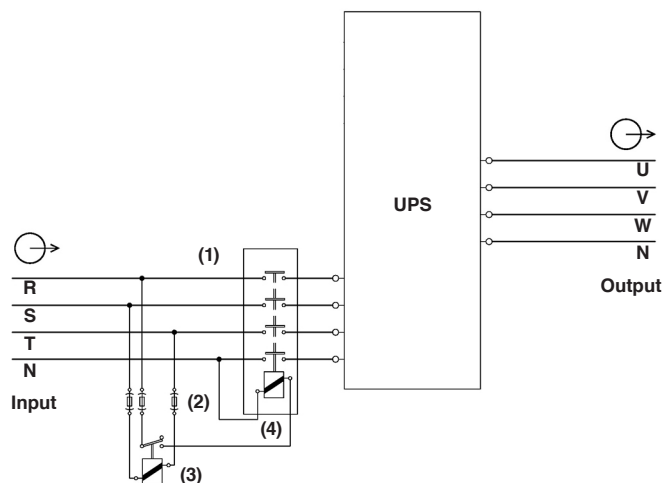

Fig. 15. Backfeed protection connection in installations with common bypass line (X-TRA-CB) and power ≤ 300 kVA.
- X-TRA-CB** equipments (common bypass line) and power ≤ 300 kVA, in accordance with safety standard EN-IEC 62040-1, installation has to be provided with a «Backfeed protection» system, as for example a contactor, which will prevent the appearance of voltage or dangerous energy in the input mains during a mains fault (see figure 15). For powers >300 kVA the UPS has the "Backfeed protection" as standard.